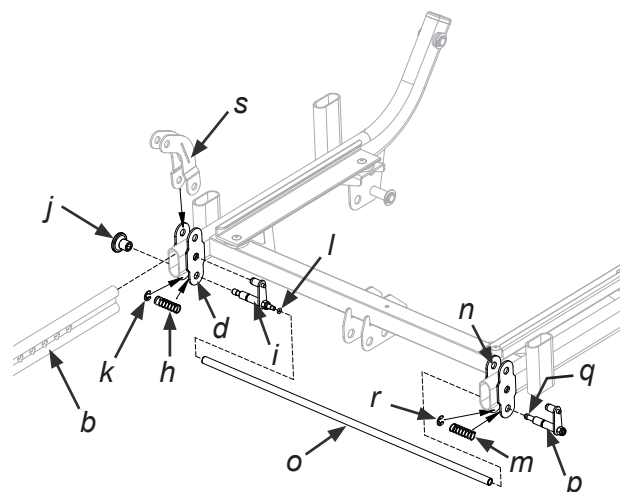

Figure 2
3. Place the spring (h) between the plates (d or n), on either the left or right side of the frame depending on what side the adjustment knob should be, see figure 2.